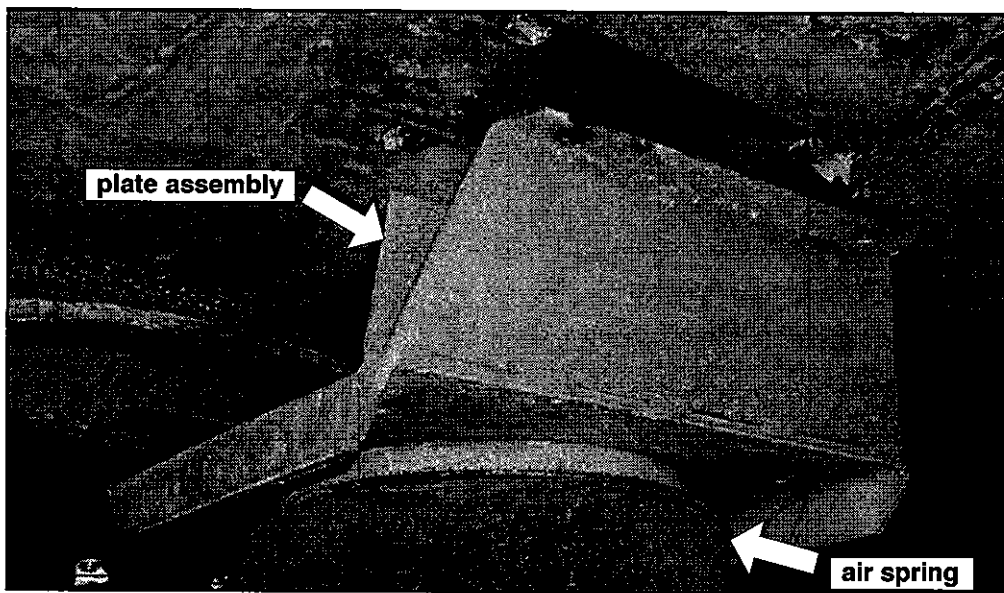

Figure 4. Reference photo.
- 15. Remove and discard the plate assembly and mounting hardware (Figures 4 and 5).